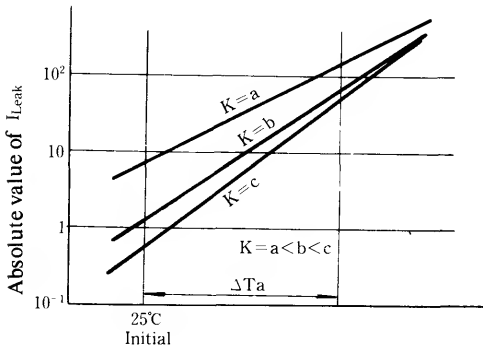

Fig. 23
Similarly to equation (1) above, the temperature coefficient is based on stable operation of a device. However, silicon — for example — includes variations such as K = 0.05 — 0.08 due to measuring voltage conditions; thus, K is substantially affected by the value of initial leakage, as shown in Fig. 23.